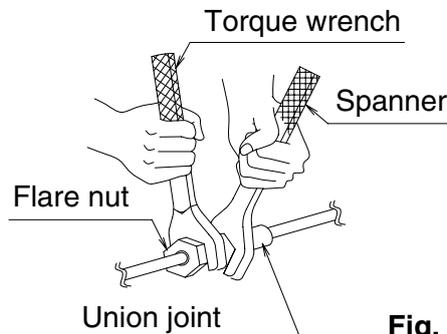

**Fig. 20**
- When making a flare connection, coat the flared inner surface only with either oil or ester oil. **(Refer to Fig. 20)**